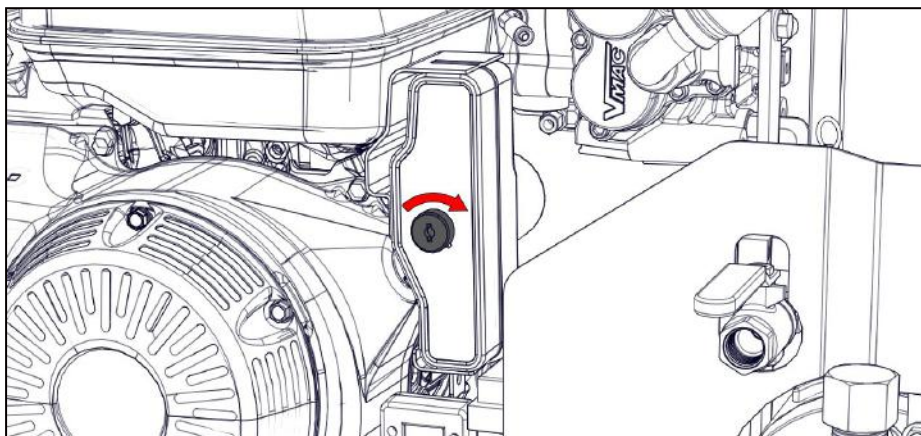

Figure 15 — Key switch
- 5) Turn the ignition key switch to the "START" position and hold it there until the engine starts (maximum of 5 seconds) (Figure 15).